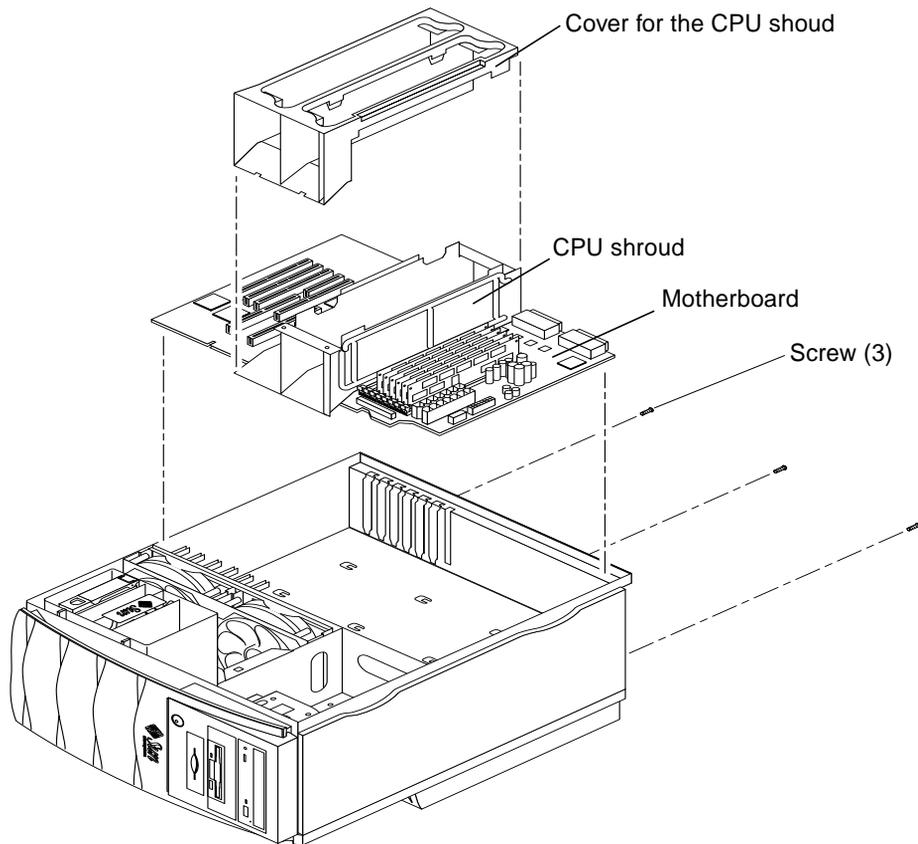

FIGURE 8-20 Removing and Replacing the Motherboard
2. **Lay the workstation on its side (FIGURE 8-20).**
6. **Using a No. 2 Phillips screwdriver, remove the three screws securing the motherboard to the chassis back panel (FIGURE 8-20).**
7. **Position the motherboard in the chassis (FIGURE 8-20).**
9. **Using a No. 2 Phillips screwdriver, replace the three screws that secure the motherboard to the chassis back panel (FIGURE 8-20).**